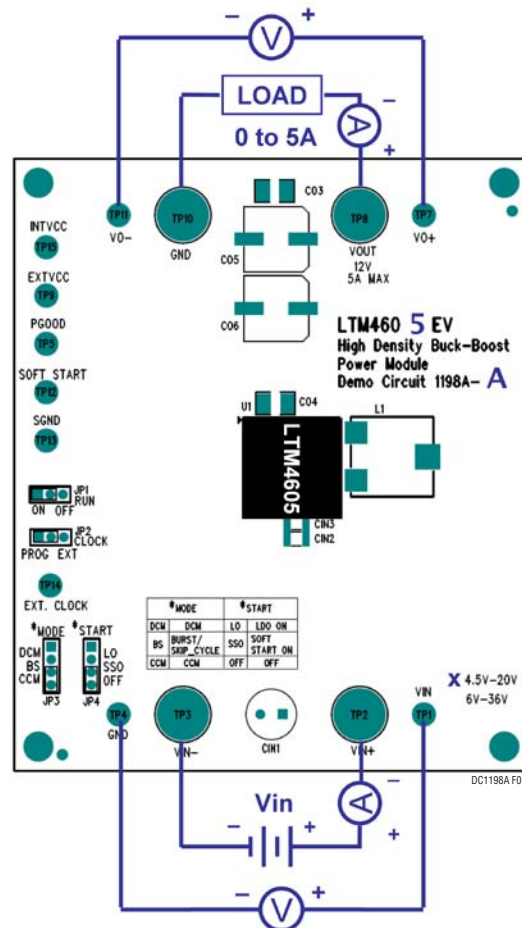

Figure 1. Test Setup of DC1198A-A
Demonstration circuit DC1198A-A is an easy way to evaluate the performance of the LTM4605EV. Please refer to Figure 1 for proper measurement equipment set-up and follow the procedure below:
2. With power off, connect the input power supply, load and meters as shown in Figure 1. Preset the load to 0A and V_{IN} supply to be less than 20V.